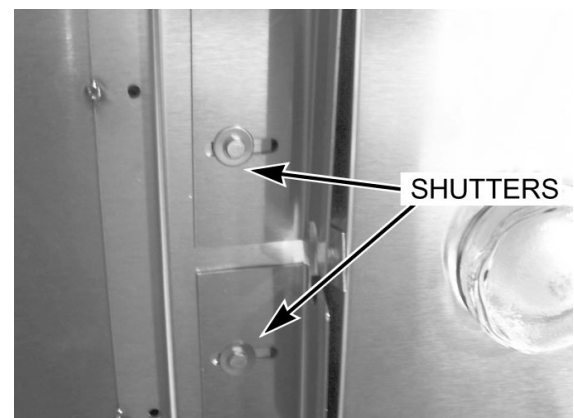

Fig. 9
1. Check air louvers (shutters) (Fig. 9) inside oven and tighten any loose screws.